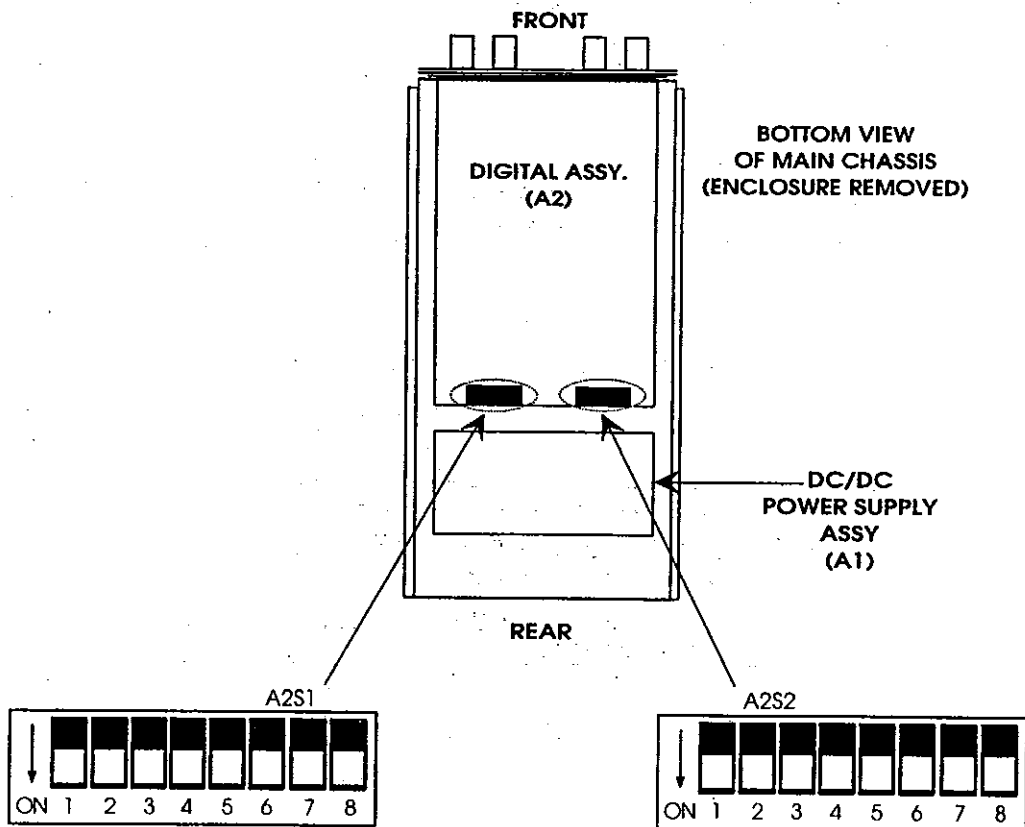

Figure H-5. Location of Switches A2S1 and A2S2 in the WJ-8710A
- e. Locate switches S1 and S2 and the A2 assembly (refer to **Figure H-5**).
- f. Set the switches S1 and S2 on the A2 assembly (refer to **Figure H-5**).